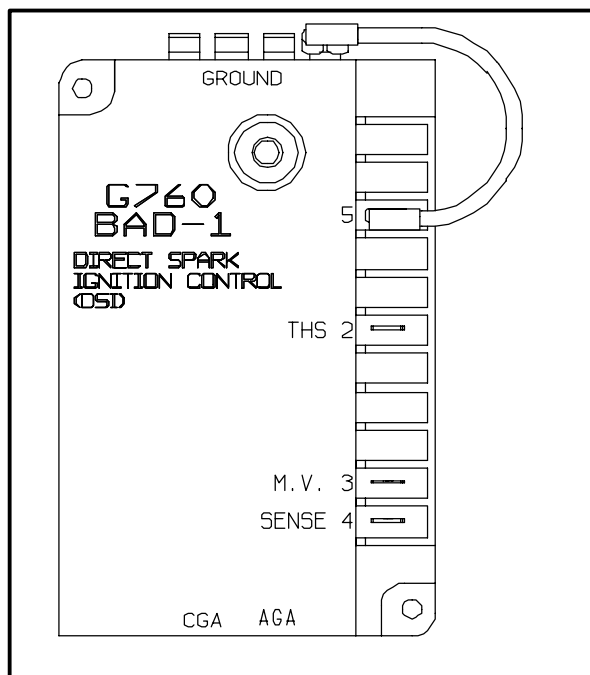

FIGURE 3
23. Connect the flame sense wire to the ignition control (sense 4). Refer to FIGURE 3.